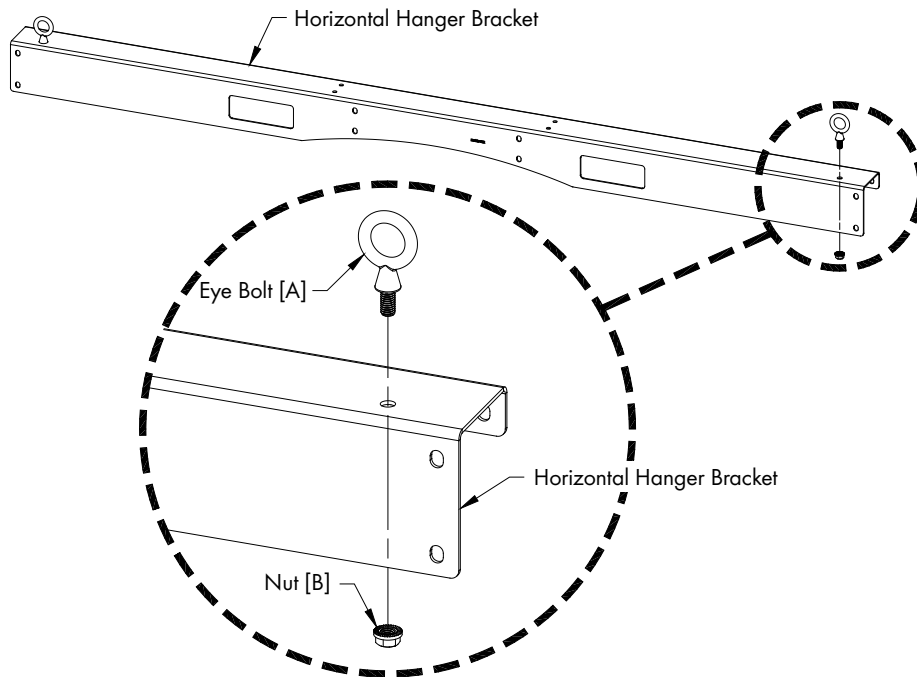

Figure 1
Attach (2) Eye Bolts [A] to Horizontal Hanger Bracket using (2) Nuts [B]. *See Figure 1.*